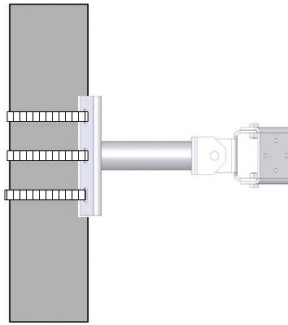

Figure 1.3 – Attaching the Mount Bracket to the Pole
- 3** Tighten the strap screws (see Figure 1.3).